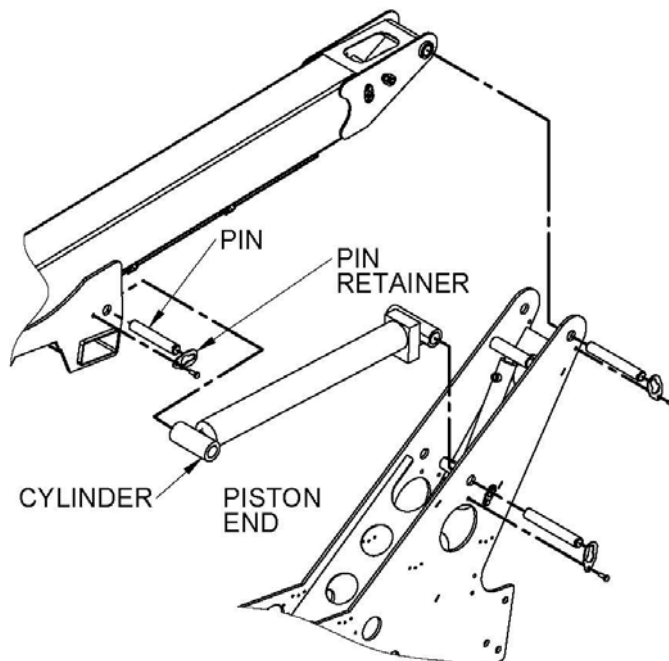

Figure 4-2. Lift Cylinder Replacement
- Locate the piston rod end of the cylinder to be removed. Unbolt and remove the pin retainer from each side of the pivot pin. Refer to Figure 4-2.